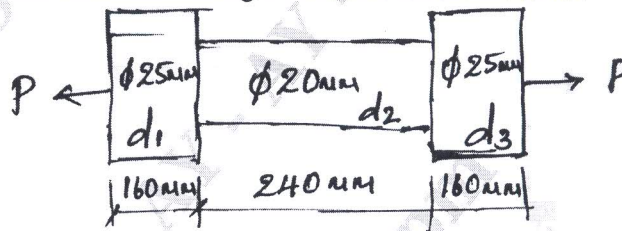

Fig Q2(b)
- b. A bar shown in Fig Q2(b) is tested. It is observed that at a load of 40kN the total extension of bar is 0.285mm. Determine the Young's modulus of the material.